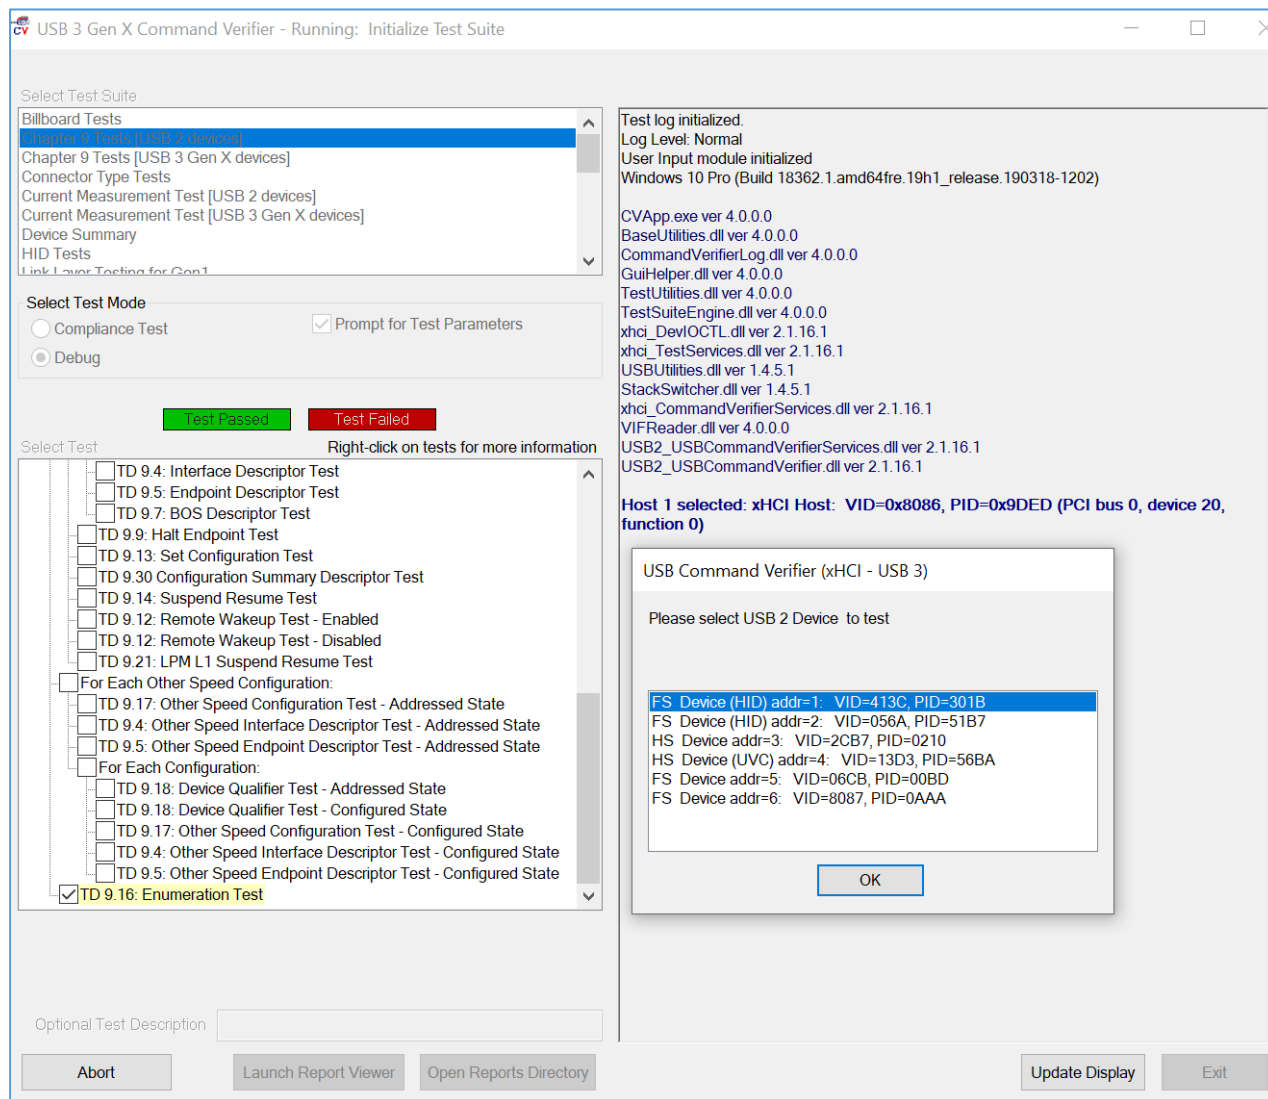

FIGURE 7.13: USER PROMPT TO SELECT FS DEVICE IN CV TOOL FOR TD 9.16 ENUMERATION TEST
2. While test is running, the “USB Command Verifier (xHCI- USB 3)” pop-up message will display a list of FS Devices (Figure 7.13 below). Select the FS Device as supported by the UUT and select “OK”.